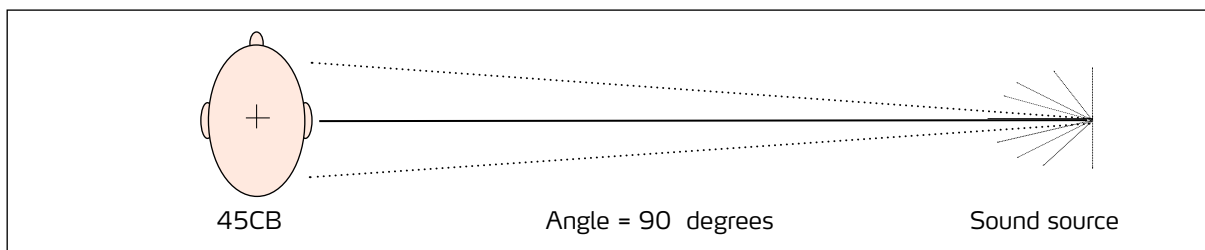
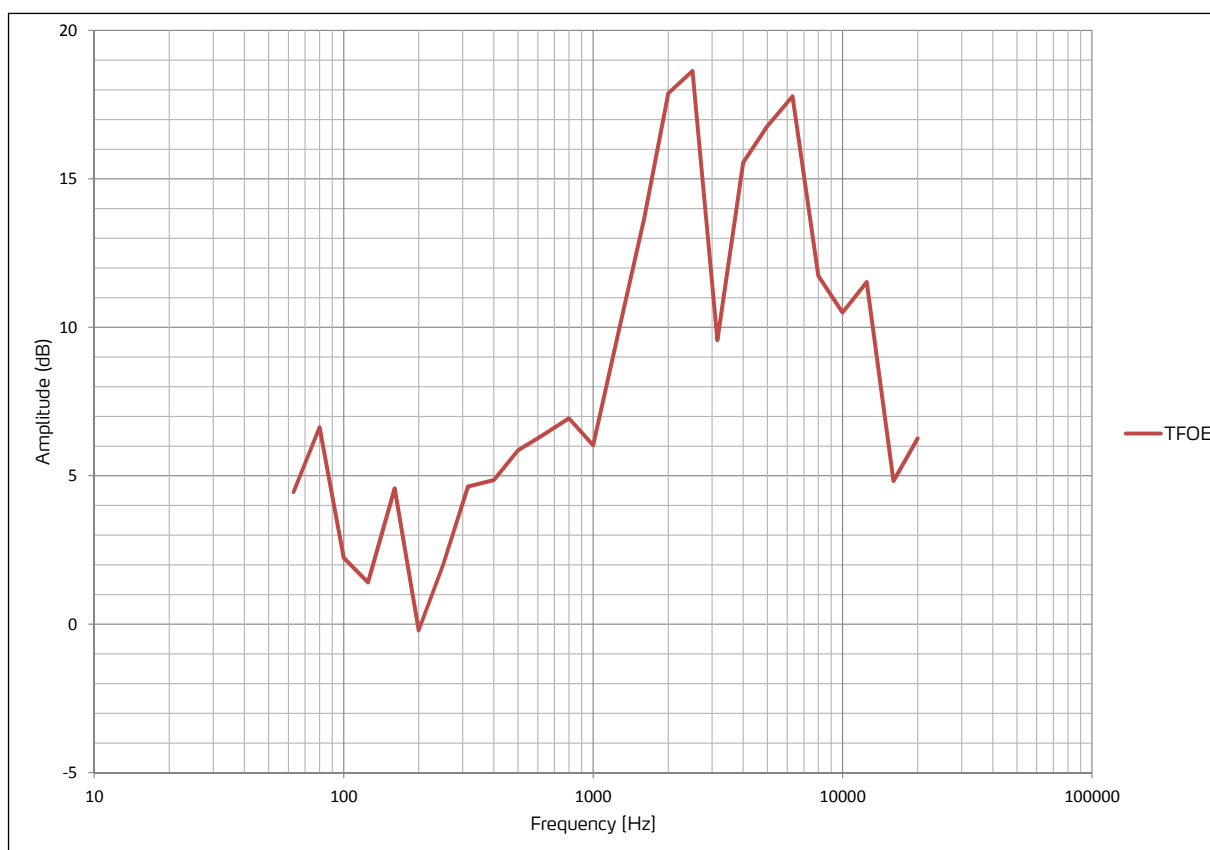

Fig. 29. Top view of the 45CB positioned for measuring normal incidence.
Fig. 30. Typical transfer function of open ear at 170 dB for the 45CB, normal Incidence.
- The **Normal Incidence** TFOE for the 45CB at 170 dB is illustrated by Fig. 29 and Fig. 30. The 45CB is at a 90° angle to the sound source so the sound wave reaches the microphone diaphragm directly.